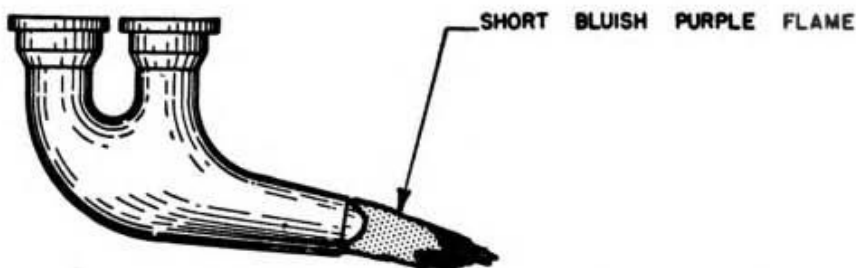

Figure 15. Rich mixture indicated by exhaust flame.
(2) Rich mixtures are best suited for maximum horsepower output. All oxygen particles are removed by combustion but enough fuel particles remain in the combustion chamber to absorb the excess heat and help cool the engine. The color of the exhaust flame is blue with a yellow tip. (See fig. 15.)